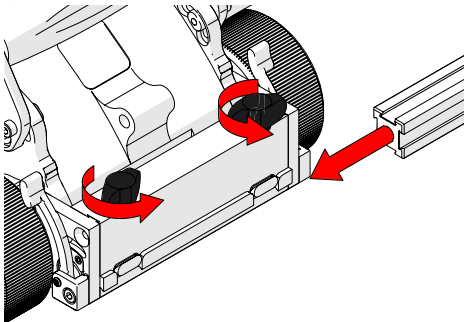
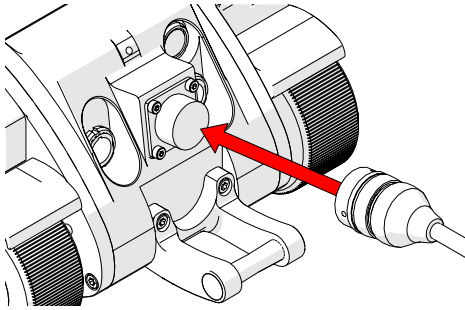

Fig. 78 - Frame bar installation
Fig. 88 - Press to umbilical connection
1. Rotate the two black wing knobs (*Fig. 78*) to loosen the dovetail jaws. Slide the frame bar along the dovetail jaws.
1. Press the umbilical to the umbilical connection of the crawler (*Fig. 88*).
Located on the side of the crawler, the cable retainer offers a means of cable management for cables, hoses and tubes. Gently apply pressure to the grooves of the cable retainer and lift (*Fig. 78*). Route cables, hoses or tubes through the retainer and then press the cable retainer down (*Fig. 88*).